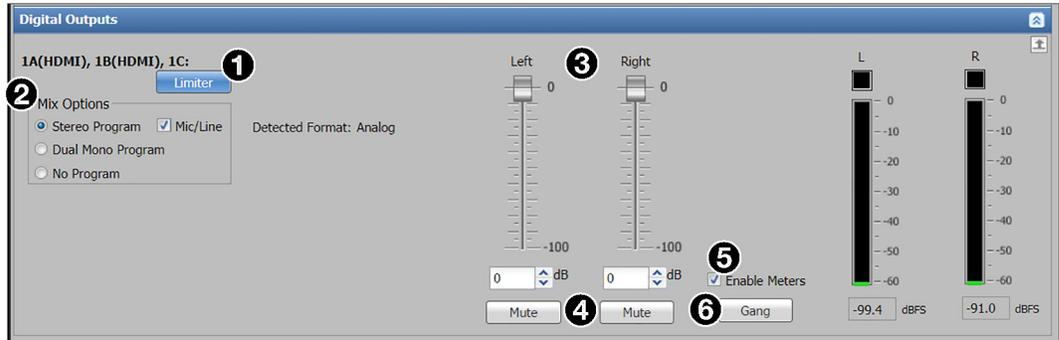

Figure 73. Digital Audio Output Panel
2. If desired, deselect the **Mic/Line** checkbox in the **Mix Options** panel (see **figure 73, 2**, on page 113) to not include the mic/line inputs in the amplified output (this is selected by default).